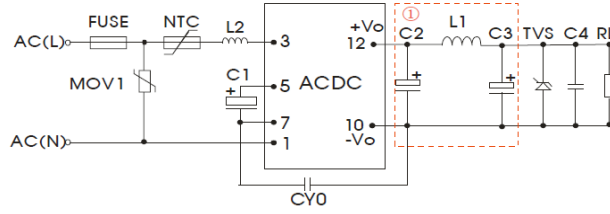

Fig. 1
2. It is necessary to add pi-type filter circuit to the output, such as the typical application in Fig 1.
2. It is necessary to add pi-type filter circuit to the output, such as the typical application in Fig.1.